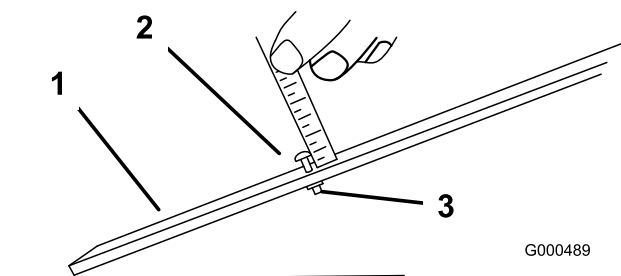

Figure 54
- Loosen nut on gauge bar (Figure 54) and set adjusting screw to desired height-of-cut. Distance between bottom of screw head and face of bar is height-of-cut.